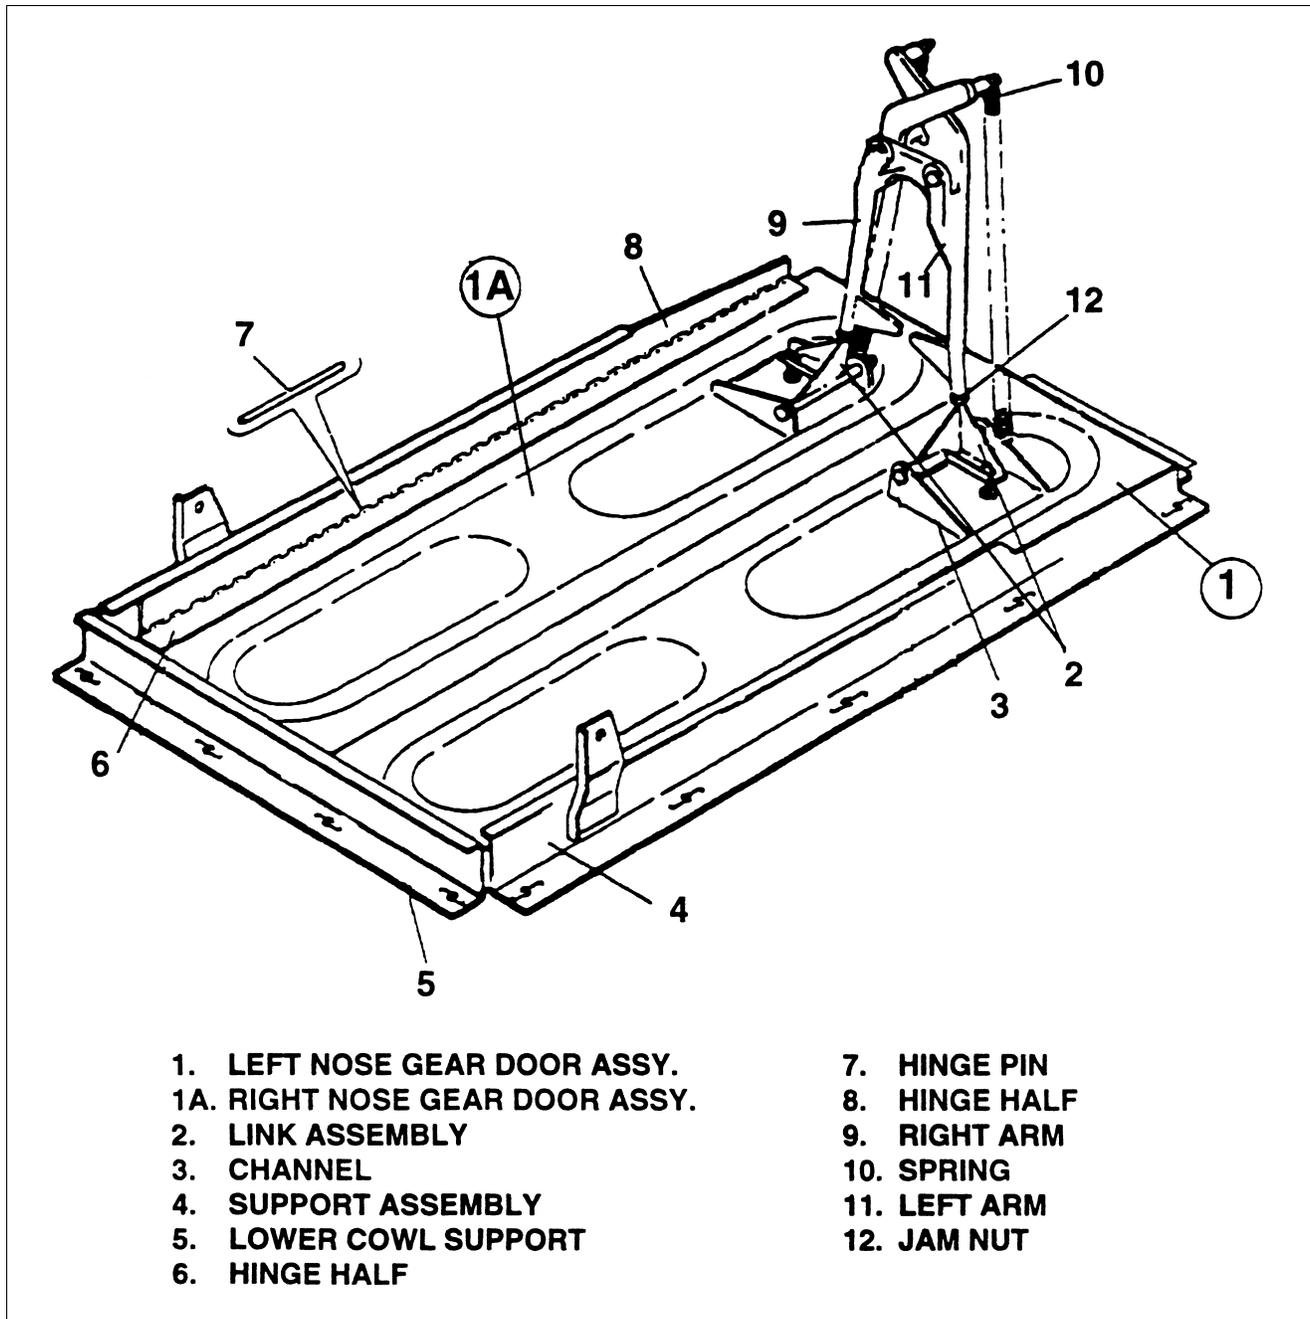

Figure 32-11. Nose Gear Doors
1. Removal of Nose Gear Door Assembly (Refer to Figure 32-11)
3. Installation of Nose Gear Door Assembly (Refer to Figure 32-11)